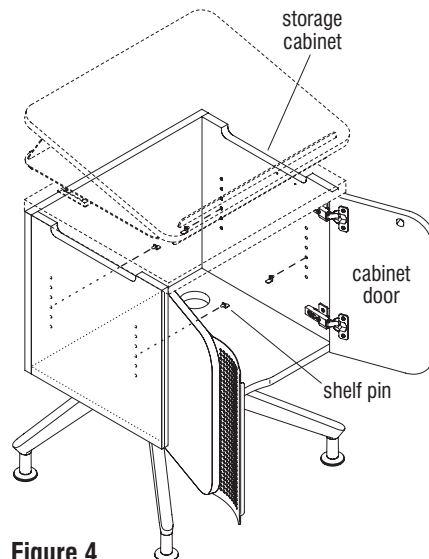

Figure 4
1. With the doors still open on the storage cabinet, determine the desired height of the adjustable shelf (Figure 4).
2. Insert four shelf pins, in the mounting hole locations inside the storage cabinet, at the desired height (Figure 4).